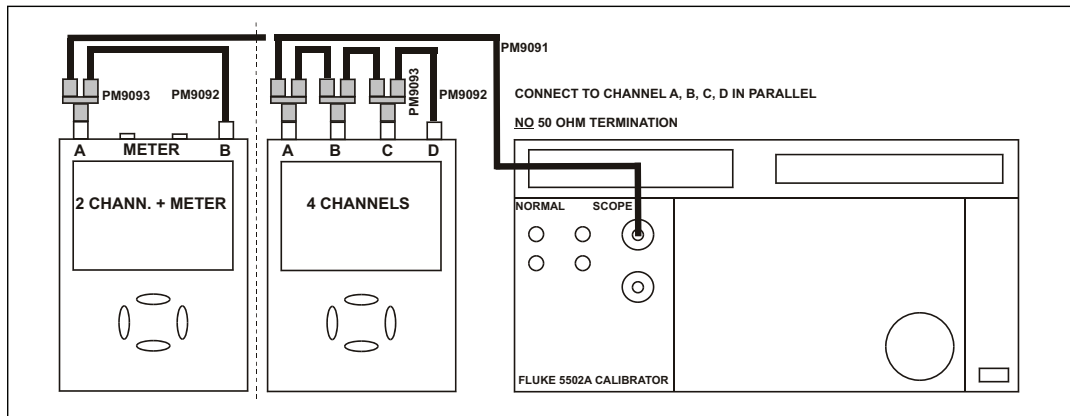

Figure 5-15. Test Tool Input ABCD to 5502A SCOPE Output
2. Connect the Test Tool to the 5502A as shown in Figure 5-15.